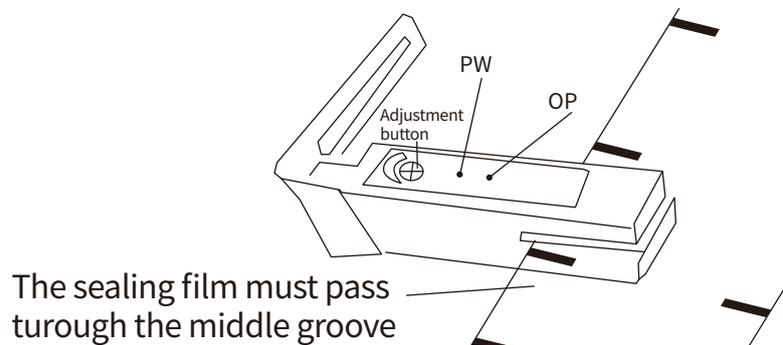

Figure 3
3. “Packing time”: set the heating time of the heating block and the sealed object, click the back value to enter the time value setting in Figure 3. After the time is filled, press “Enter” to confirm.
4. “Top box time”: set the time for the finished product to rise and exit, click the value of the back to enter the time value setting in Figure 3. After the time is filled, press “Enter” to confirm.
5. “Roll film delay”: Set the delay of the film roll time. (If there is no special case, please set it to 0..0) to hit the rear value and enter the time value setting in Figure 3. After the time is filled, press “Enter” to confirm.
6. “Volume Points” sets the “points” point in the film mode. Click the back value to enter the time value setting in Figure 3. After the time is filled, press “Enter” to confirm.
7. “Setting”: Set the number of finished products once sealed, click the value in the back to enter the time value setting in Figure 3. After the time is filled, press “Enter” to confirm.